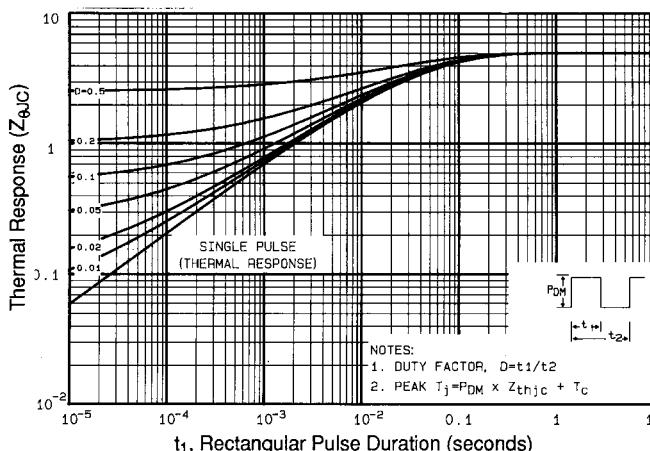

Fig 11. Maximum Effective Transient Thermal Impedance, Junction-to-Case
① Repetitive rating; pulse width limited by max. junction temperature (See Figure 11)
③ $I_{\text{SD}} \leq 10\text{A}$, $dI/dt \leq 90\text{A}/\mu\text{s}$, $V_{\text{DD}} \leq V_{(\text{BR})\text{DSS}}$, $T_J \leq 150^\circ\text{C}$
② $V_{\text{DD}}=25\text{V}$, starting $T_J=25^\circ\text{C}$, $L=924\mu\text{H}$